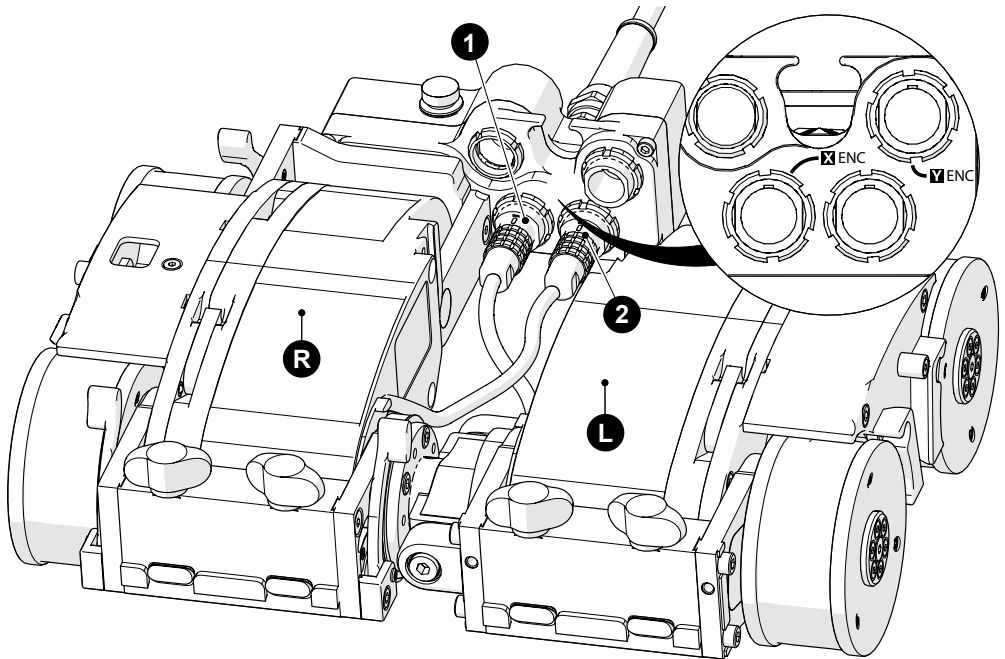

Fig. 320 - Left drive module encoder connection
2. Plug the **L** left drive module's connector into the umbilical's **1** **X-ENC** socket (Fig. 320).
3. Plug the **R** right drive module's connector into the remaining **2** socket (Fig. 320).